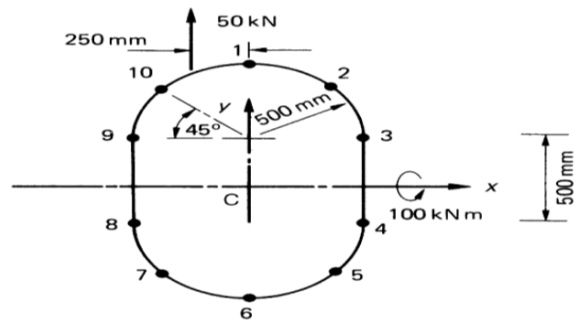

Figure 7
- (b) The doubly symmetrical fuselage section shown in Figure 7 has been idealized into an arrangement of direct stress carrying booms and shear stress carrying skin panels; all the boom areas are 150 mm^2 . Calculate the direct stresses in the booms and the shear flows in the panels when the section is subjected to a shear load of 50 kN and a bending moment of 100 kNm. [7M] [7M]